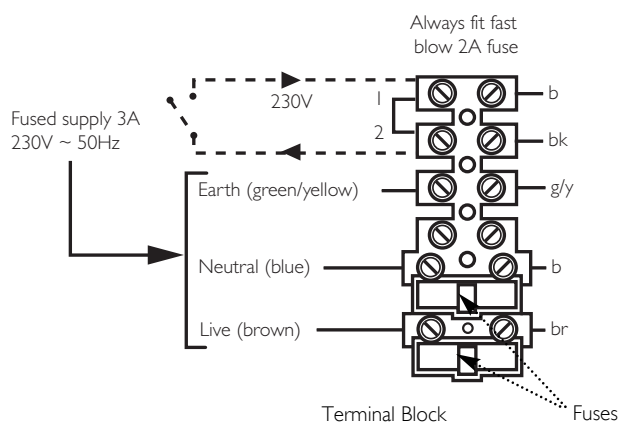

Fig. 33
7. Remove the link between terminals 1 & 2. The switched output from the external control must be connected to terminal 1. (Fig. 33).